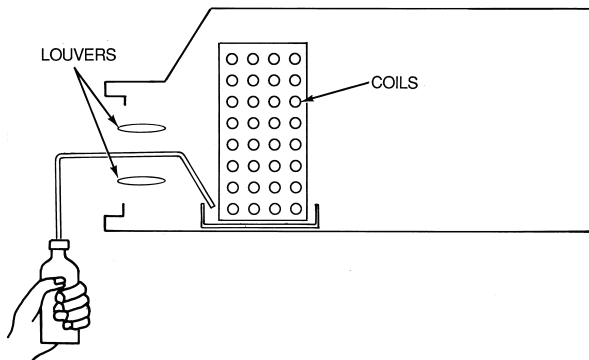

Fig. 27 - Inserting Water Into Drain Pan
1. Check condensate drainage system; on the opposite side of the drain connection, insert a water bottle up into the fan coil unit and fill the drain pan (see Fig. 27). Water must flow steadily; if not, check the pipe slope or inspect for any pipe restrictions.